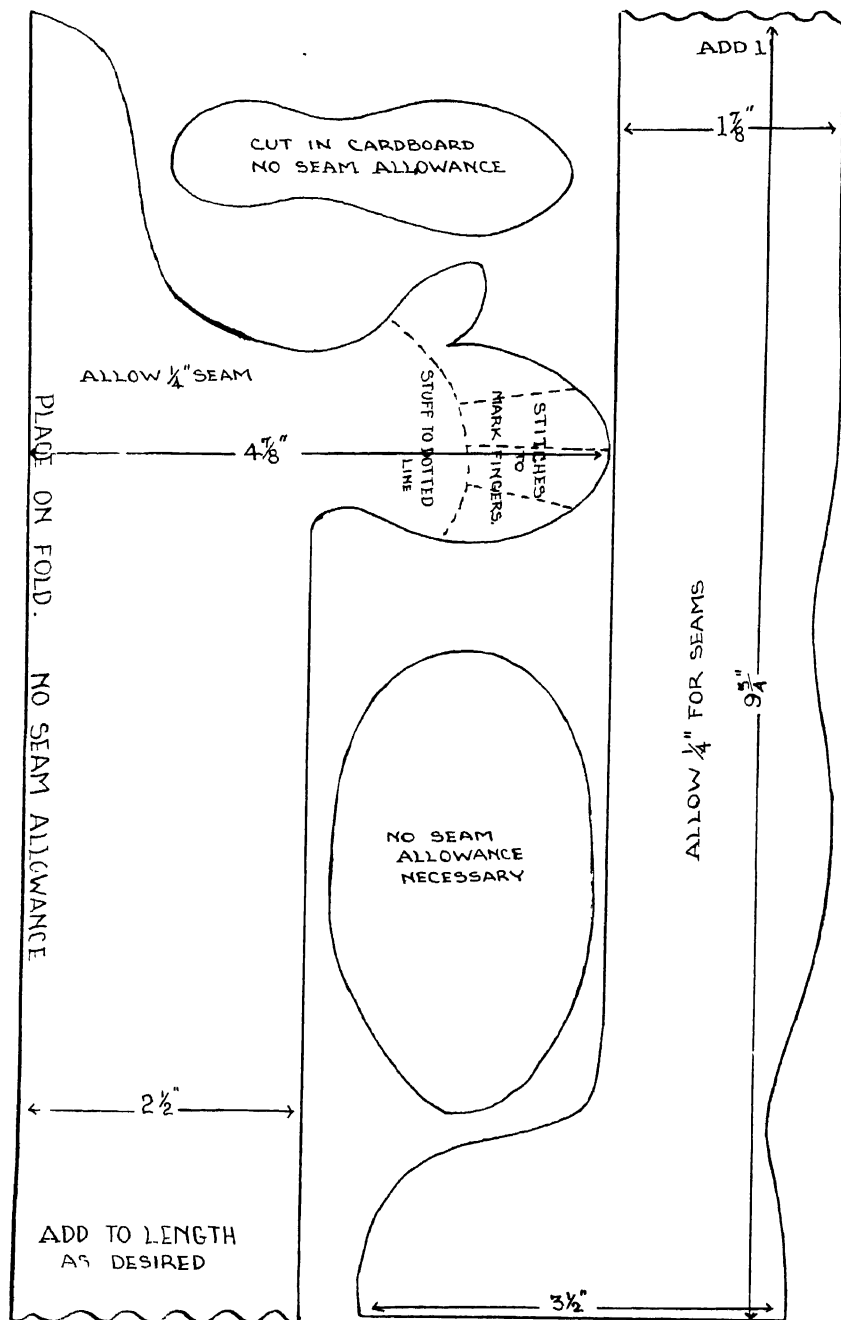

Fig. 20—Body Pattern
*Body*—Trace the pattern and allow  $\frac{1}{4}$ " for seam when cutting. The traced line is the line on which you sew. Use a double thickness for each leg. (Fig. 20.)